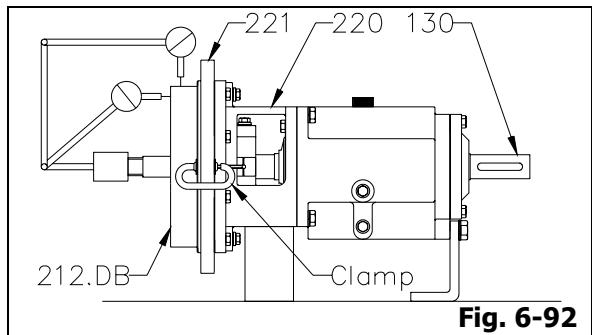

Fig. 6-92
6. Check stuffing box cover (212.DB) run out. Clamp stuffing box cover (212.DB) tight to frame adaptor (220) or adaptor extension ring (221). Rotate shaft (130) through 360°. If total indicator reading is greater than 0.13mm, determine cause and correct before proceeding (Fig. 6-92).